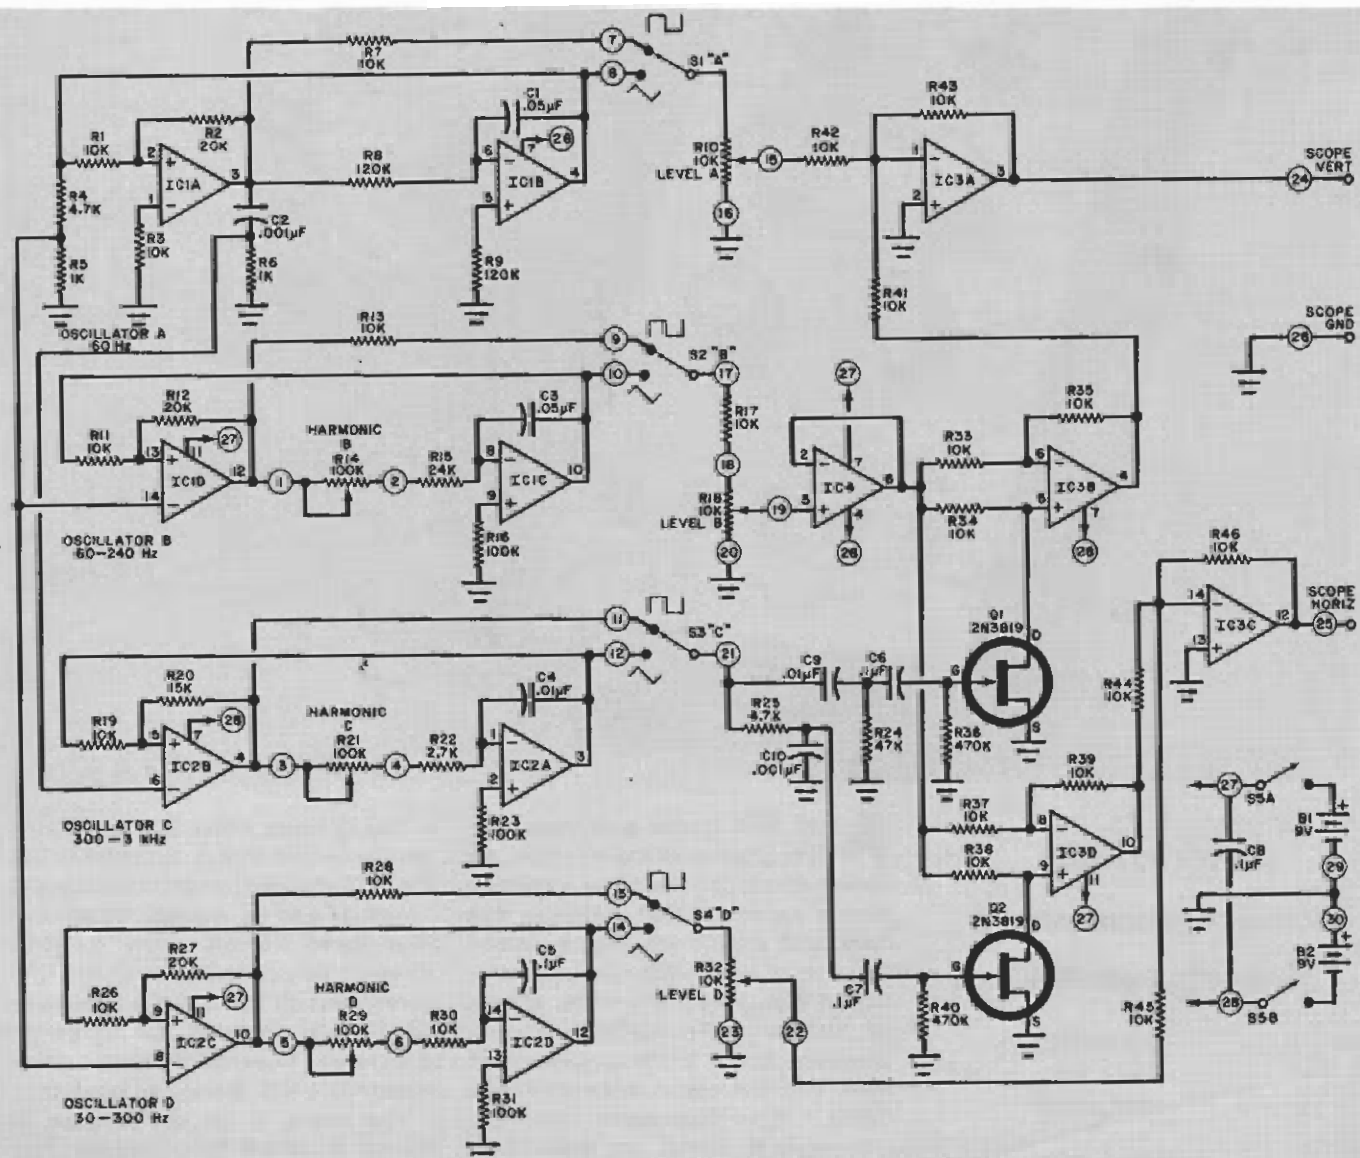

Fig. 2. Oscillators are identical except for frequency-determining elements.
**Circuit Details.** As shown in Fig. 2, the four oscillators are identical except for their frequency-determining elements. Oscillator A is fixed at approximately 60 Hz by  $R8$  and  $C1$ ; oscillator B is variable from 60 to 240 Hz; oscillator C is variable from 300 to 3000 Hz; and oscillator D is variable from 30 to 300 Hz. The oscillators are arranged in a classical comparator-integrator configuration.